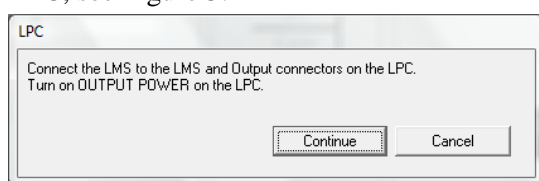

Figure 4. Turn on **OUTPUT POWER** switch.
8. After downloading the parameters, which can take up to a minute a checksum check will be done to ensure that the SLIQ has received the new parameters. If the checksum is correct a message box is shown to confirm this, see Figure 4 above.
8. Follow the instructions on the screen for controlling the **LAMP** switch on the LPC, see Figure 4.